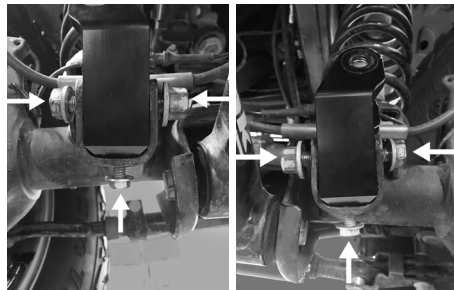

Fig. 6 Driver's side (Left), Passenger's side (Right)
6. Once the left side and right side blocks have been determined and the assembly holes have been drilled out, install the relocation blocks loosely in the OEM lower shock mount (Fig 6).